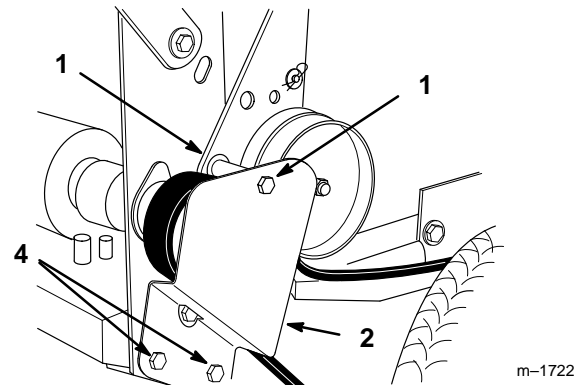

Figure 37
1. Remove top capscrew securing idler support and idler bracket to rear frame (Fig. 37).
2. Loosen bottom two mounting screws enough to allow belt to pass between drive pulley and idler support (Fig. 37).